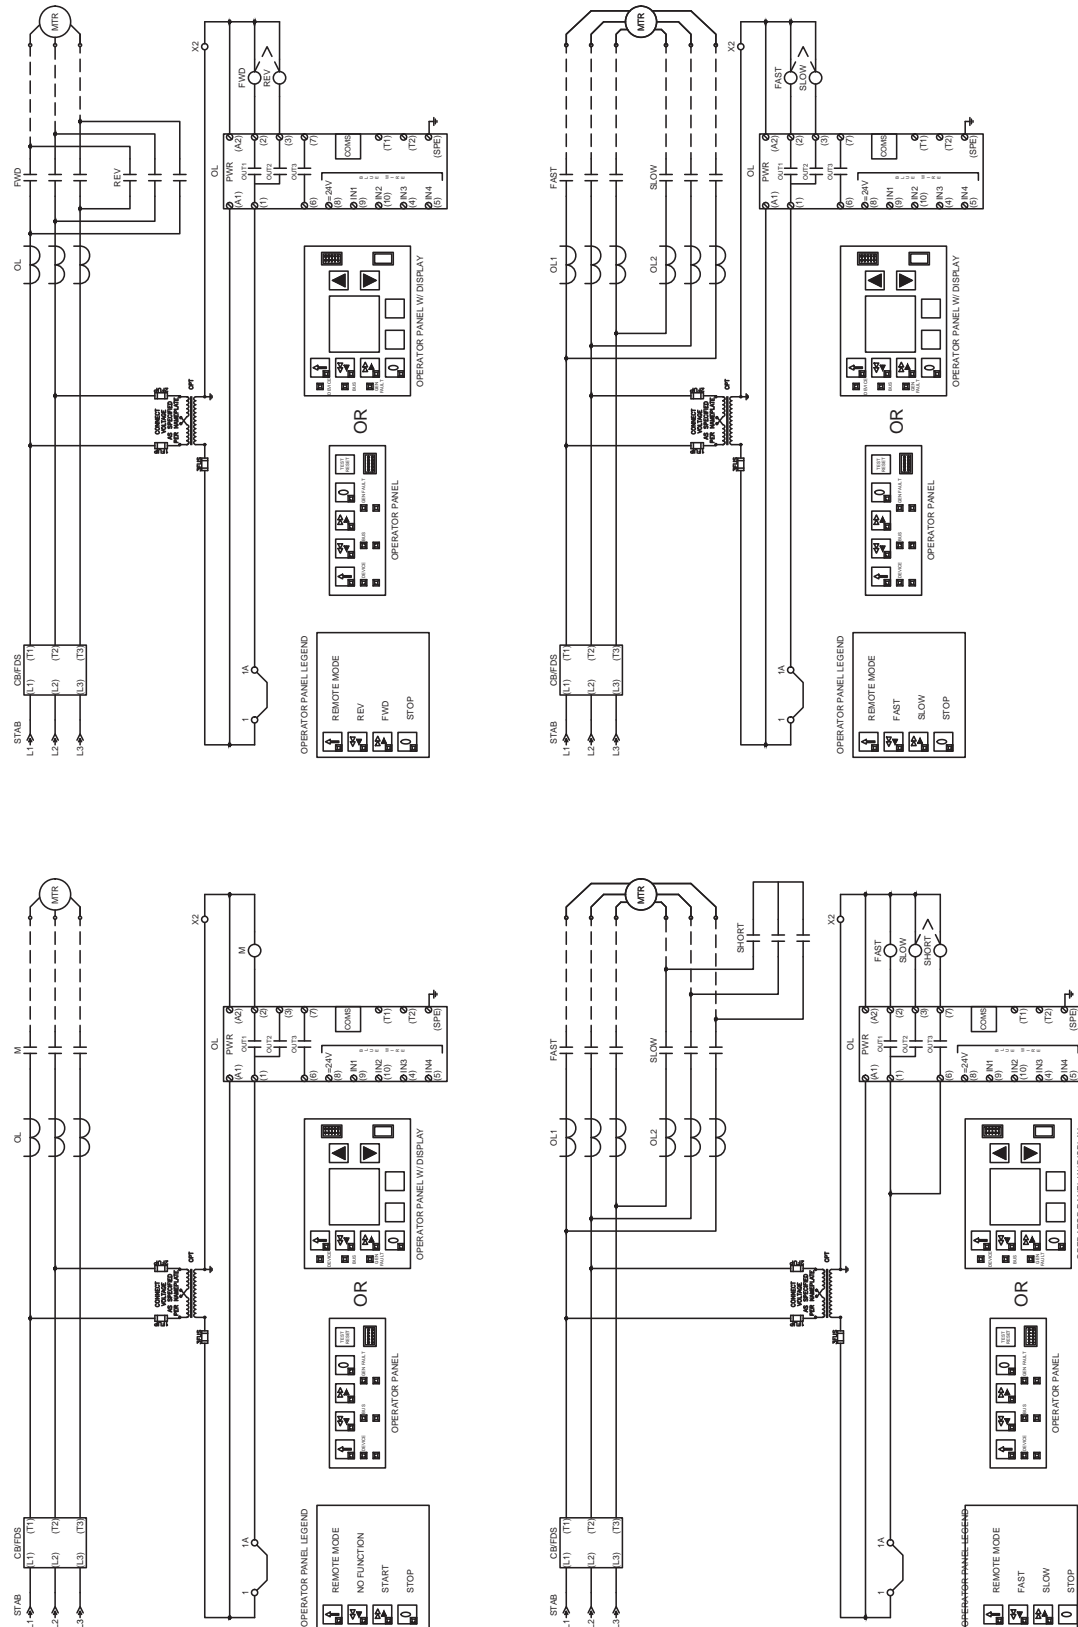

Figure 6
i. MOMENTARY OP/MAINTAINED BITS (see Figure 6):
ii. MOMENTARY OP/MOMENTARY BITS (see Figure 6):